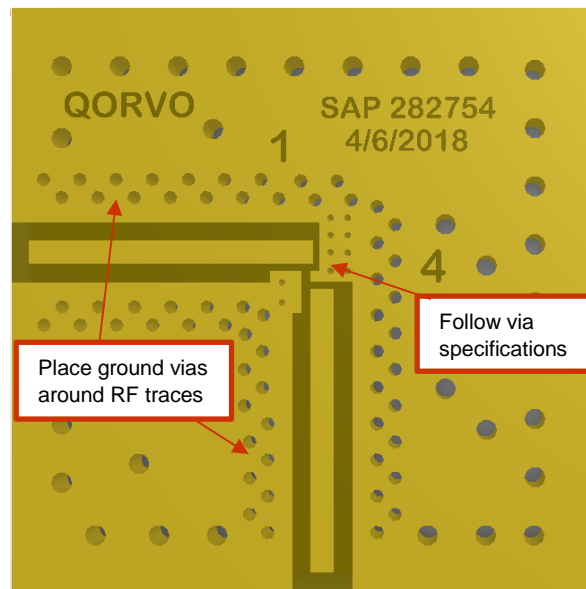

Figure 4a. Recommended PCB layout Considerations.
4. We do not recommended connecting ground pins 2 and 5 with a common plane or trace between them due to some manufacturing limitations. **Figure 4a** illustrates the recommended configuration.